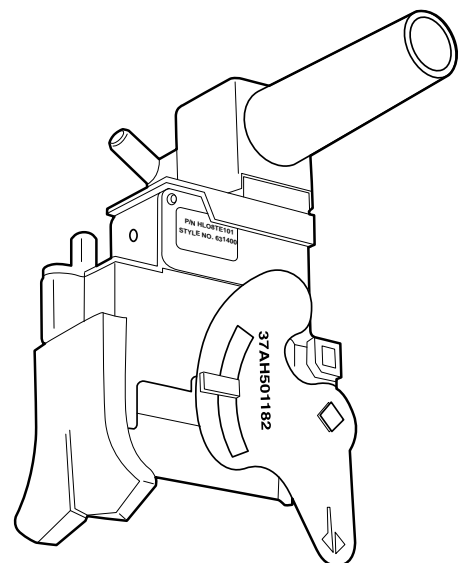

Fig. 29 — 37HS4 Thermostat Gasket Location
10. Remove straight-side white foam thermostat gasket and replace it with larger, curved-side foam gasket. Figure 29 shows the correct location for the gasket.